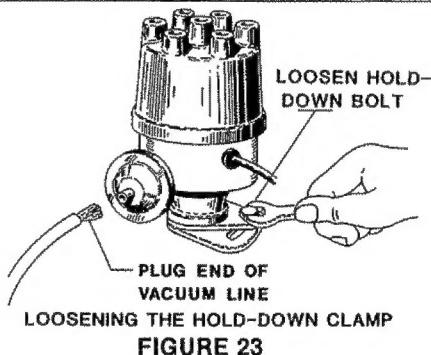

FIGURE 23
- Disconnect the vacuum advance hose from the distributor and seal the end of the hose with tape or a plug as shown in Figure 23.
- Loosen the distributor hold-down clamp JUST enough to permit rotating the distributor body by hand as shown in Figure 23.
Read the owner's manual or engine compartment decal and follow the instructions regarding vacuum line or advance-retard solenoid connections when checking Dwell angle. Usually, the vacuum hose must be disconnected from the distributor and plugged as shown in Figure 23.